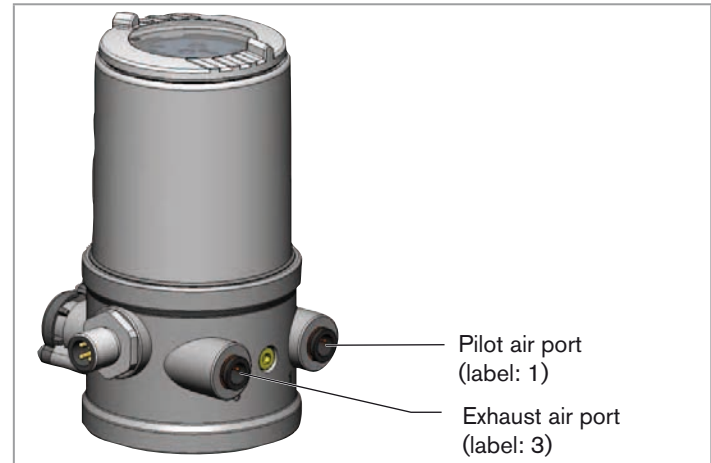

Fig. 8: Pneumatic Connection
- Connect the control medium to the pilot air port (1) (3 – 7 bar; instrument air, free of oil, water and dust).
- Attach the exhaust airline or a silencer to the exhaust air port (3) (see "Fig. 8: Pneumatic Connection").